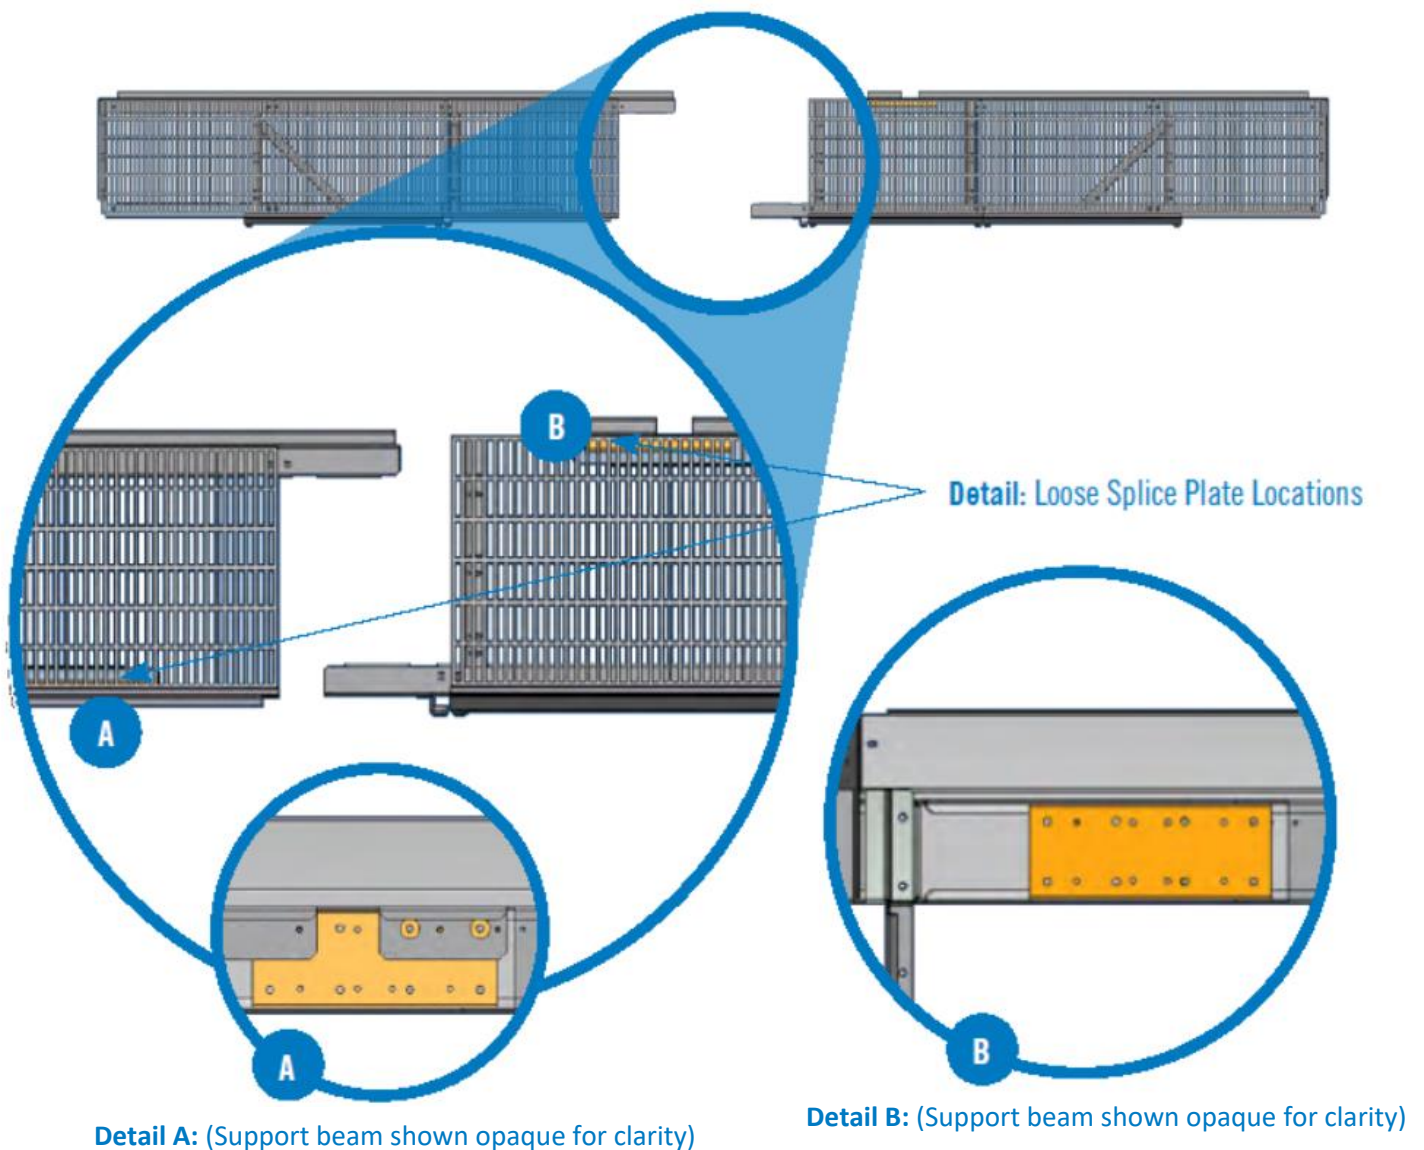

Figure 15. Two Platform Sections
2. Unbolt the splice plates from both sides of the platform, but DO NOT remove the plates from the support beam channel. Slide the loose plates to the locations shown in **Figure 15, Detail A and B**.